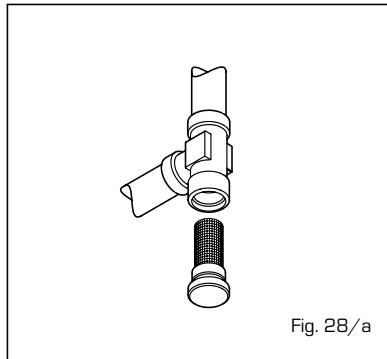

Fig. 28/a
the syphoned drip is full of water (this check is of importance particularly when the generator has been out of use for a long period of time). Filling is done via the special opening (fig. 28).
4.8.1 Cleaning the "Aqua Guard" filter "BF" vers. (fig. 28/a)